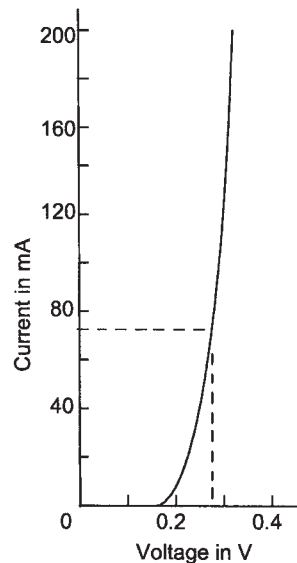

Figure 13.10 Example
Estimate (a) the d.c. resistance and (b) the a.c. resistance of the diode giving the characteristic shown in Figure 13.10 at a voltage of 0.28 V.
- 2 Estimate (a) the d.c. resistance and (b) the a.c. resistance of the diode giving the characteristic shown in Figure 13.10 at a voltage of 0.24 V.